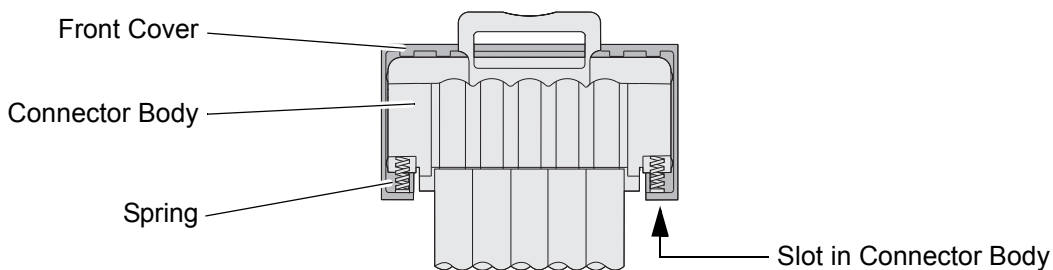

Figure 47 - Installing the Front Cover
- 23.6.2 Position the connector body on top of the front cover (Refer to Figure 47).
- 23.6.3 Put the ends of the two springs on the bottom of the connector body into the slots in the bottom of the front cover (Refer to Figure 47).